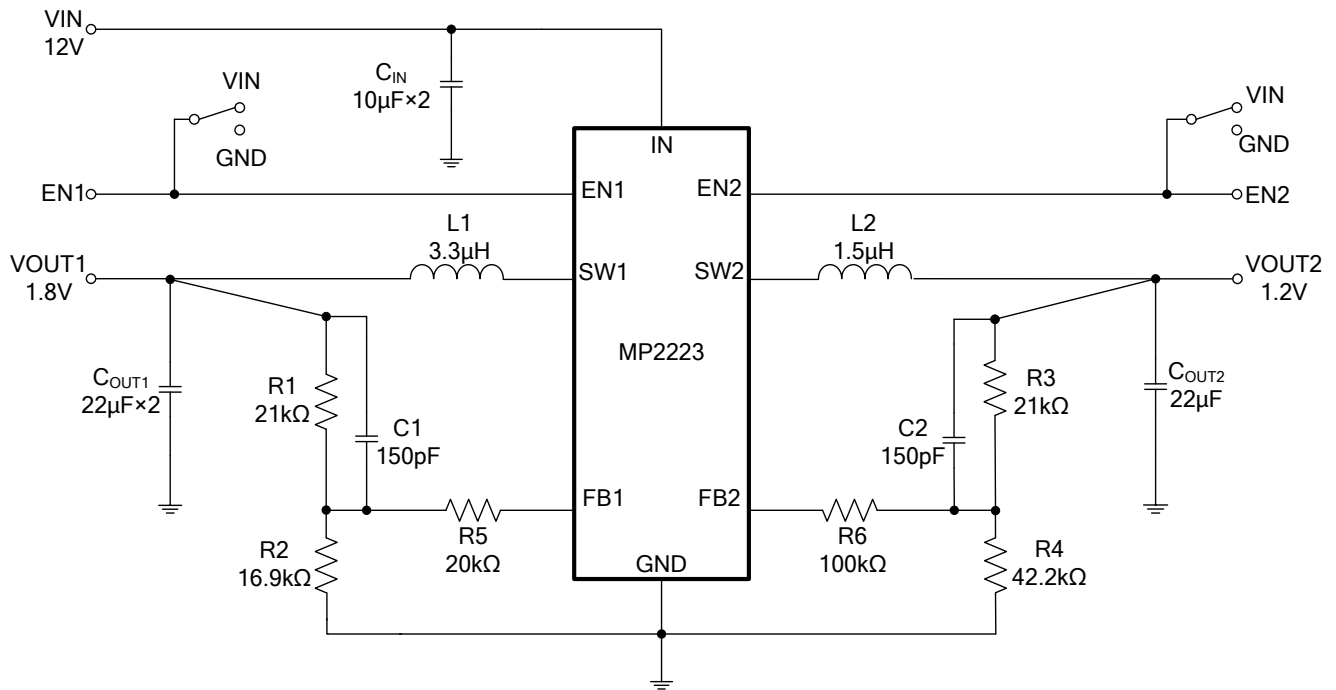

Figure 7: 12V V_{IN} , 1.8V/3A, 1.2V/2A
- 8) The recommended layout is based on the Typical Application circuit in Figure 7.
The detailed application schematic is shown in Figure 7. The typical performance and circuit waveforms are shown in the Typical Performance Characteristics section. For more device applications, please refer to the related evaluation board datasheets.